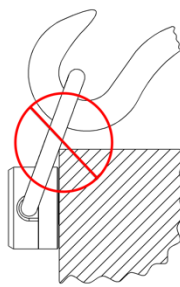

Fig 2
- Make sure the hoist ring bail/ring or hardware attached to it does not come in contact with the workpiece or any obstacles during the lift. The bail/ring must not bind on the edge of the workpiece. Use spreader beam to avoid binding (Fig.2).
Acceptable pulling area, restrictions apply (see Fig. 2 and Safety Information above)